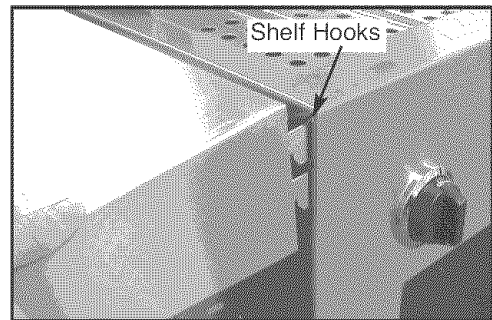

Fig. 13
1. Attach a shelf to the left side of grill by inserting the shelf hooks into the slots on the side of the grill and pushing down on the shelf assembly until level with grill. (See Fig. 13)